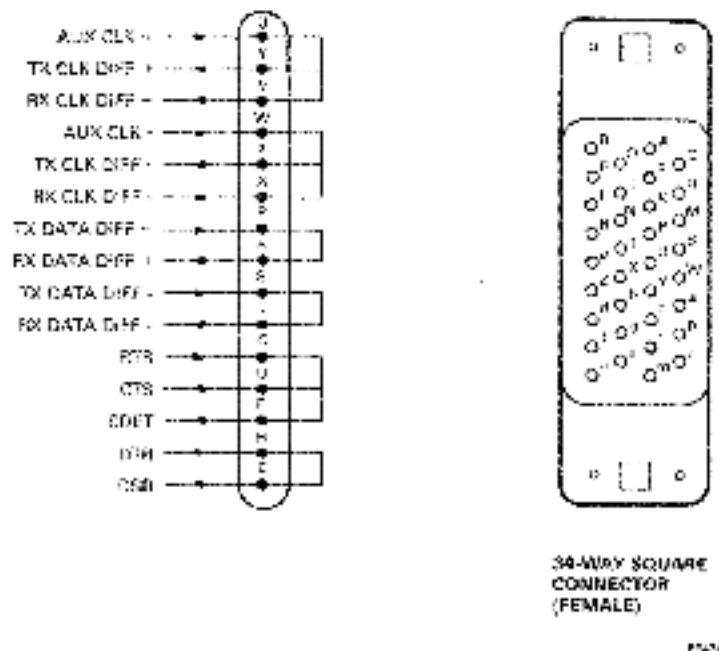

Figure 2-11 H3250 Loopback Connector
2.9.3.4 H3250 34-Way Loopback Connector (V.35) – This connector is used to test the V.35 interface of the sync channel and the V.35 adapter cable. It is a 34-way square connector that attaches to the end of the V.35 adapter cable, and is wired as shown in Figure 2-11.